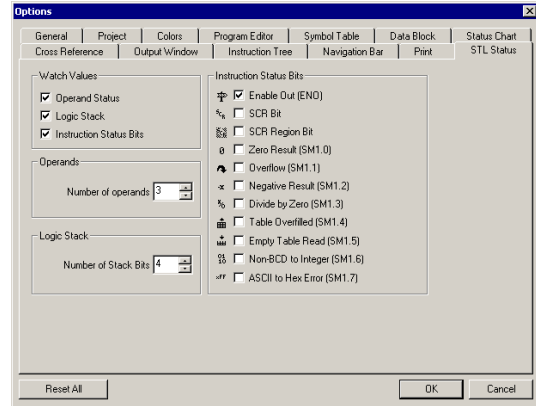

Figure 8-3 Options for Displaying STL Status
STEP 7–Micro/WIN allows you to display the status of a variety of parameters for the STL instructions. Select the **Tools > Options** menu command and then select the STL Status tab. See Figure 8-3.